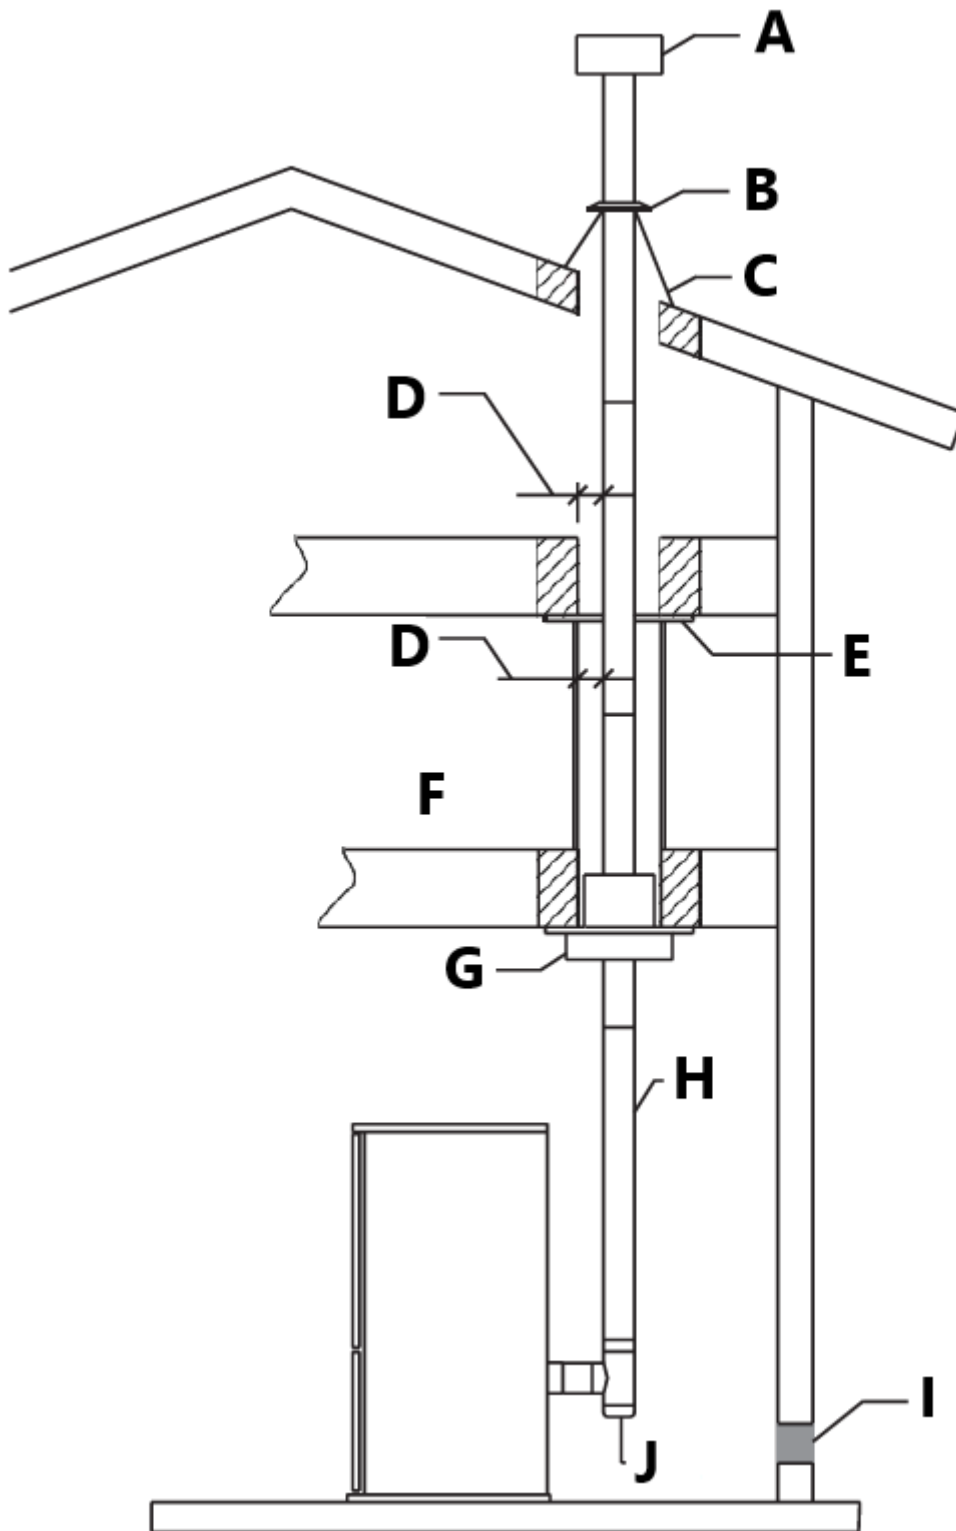

Fig. 10
- Install Black Ceiling Support from below joist level and fasten with 4–1.5" (102 mm - 38 mm) spiral nails or screws (Fig. 10). Alternatively, a Support Assembly may be used in place of the black ceiling support the support assembly fits to ceiling opening from below and is fastened to joists with 4 -1.5" (102 mm - 38 mm) spiral nails or screws (Fig.10).
- Firestops are required where the vent penetrates a floor or ceiling. Cut a hole of the appropriate size in the ceiling/floor and install the Firestop from above or below the joist. Fasten the Firestop with nails through the corners (Fig. 10).